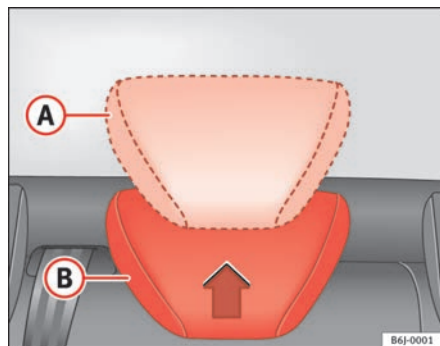

Fig. 5 Adjusting the rear head restraints
- Raised position or position for use **(A)** ⇒ fig. 5. In this position, the head restraint is used normally, protecting the occupant of the rear seats, along with the rear seat belts.
- Rest position, not in use **(B)** ⇒ fig. 5. This position improves the driver's rear visibility.